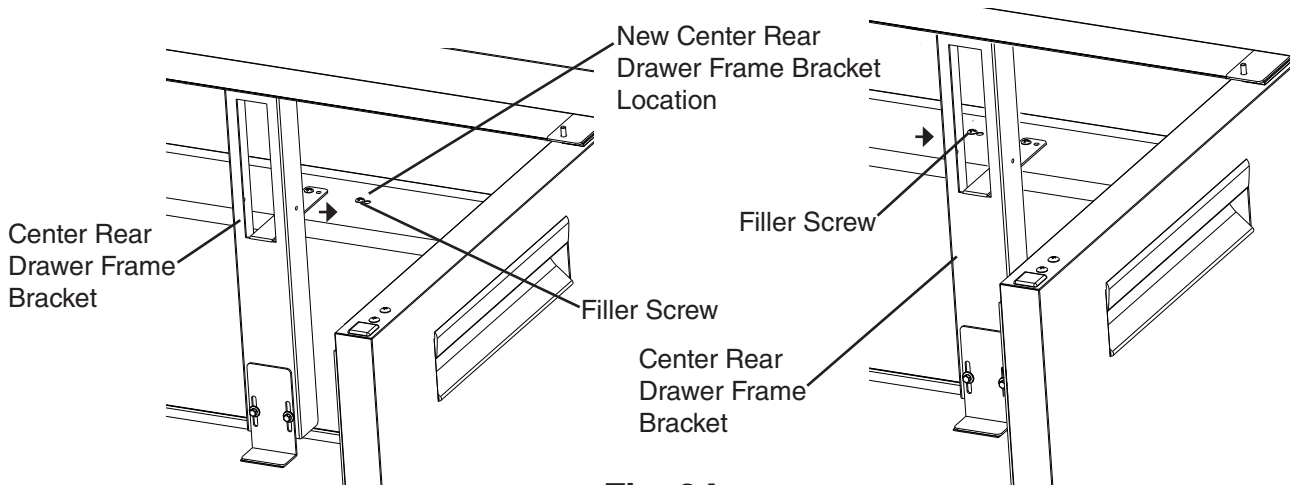

Fig. 24
6) Remove the center rear drawer frame bracket and the filler screw. See Fig. 24. Slide the center rear drawer frame bracket over to the new location and secure it. Place the filler screw in the former center rear drawer frame bracket hole.